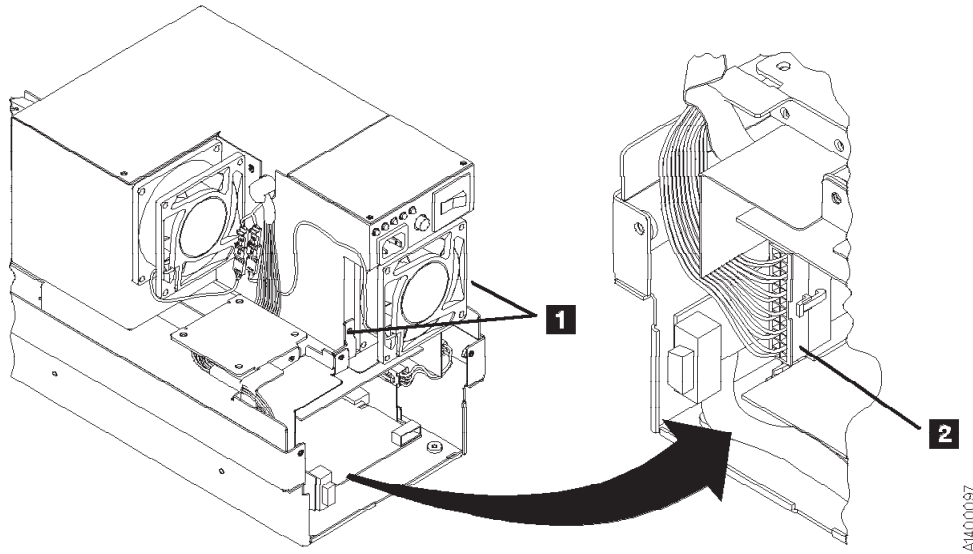

Figure 10-45. Power Supply (Former Level)
5. See Figure 10-45 on page 10-63. Disconnect the power supply connector **2**.